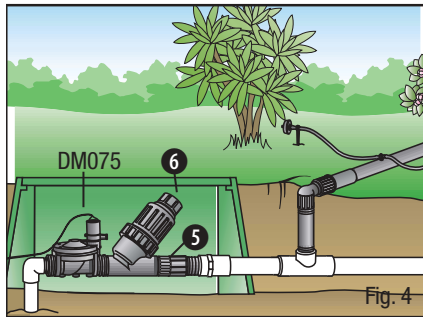

Fig. 4
**b. Underground installation using in-line AC valve (Fig. 4):** Use DIG model DM075 valve assembly, which is a complete drip zone head assembly; includes 3/4" electric valve, #6, filter, #5, pressure regulator and #72, swivel adapter. Or build your own system using the same parts individually. This assembly can be connected via electric wire to any available station on your irrigation controller or to DIG model #8006, AC controller with an independent program for each valve.